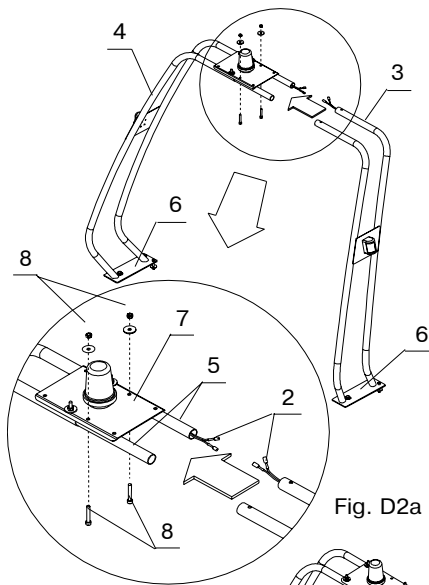

Fig. D2a
- 3.1 connect terminals of electrical cable (pos.2 Fig.D2a) of left and right racks of the arch;
- 3.2 connect left rack of the arch (pos.3 Fig.D2a) with right rack of the arch (pos.4 Fig.D2a);
- 3.3 align holes in racks with holes in inserts (pos.5 Fig.D2a) so that the distance between right and left supports of the arch (pos.6 Fig.D2a) were:
- 3.4 fix arch rack via upper platform (pos.7 Fig.D2a) with the help of bolts M6x40 with washer 6x12 and nuts M6 (pos.8 Fig.D2a).